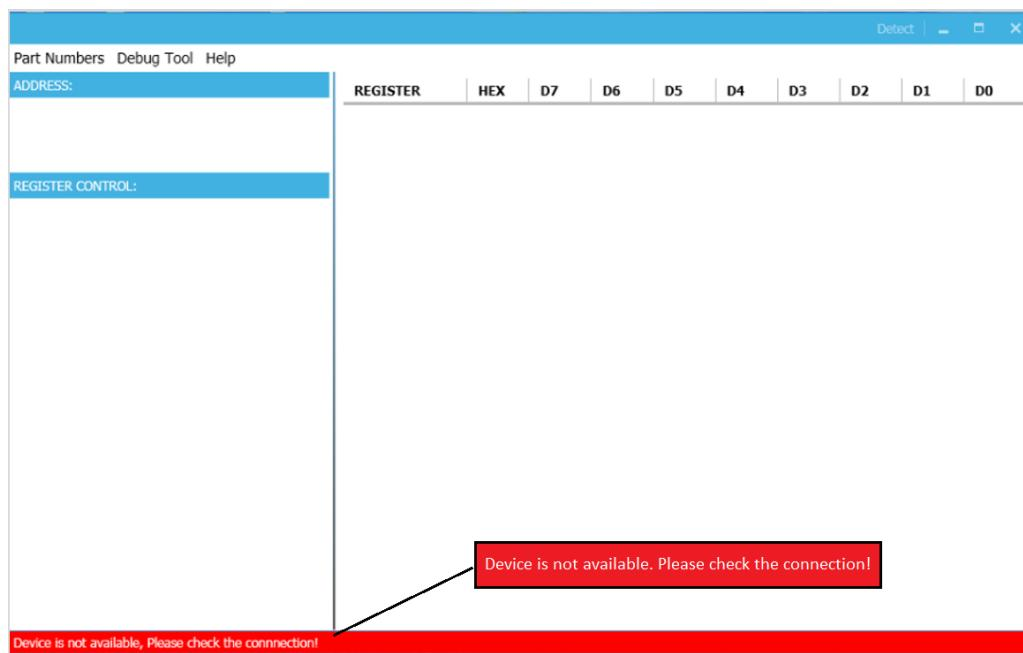

Figure 9: Warning Indicates Unsuccessful Connection – USBI2C Communication Interface Device is Not Connected
- 2) "Device is not available. Please check the Connection!" This means that the USB I2C communication interface device is not connected (see Figure 9).